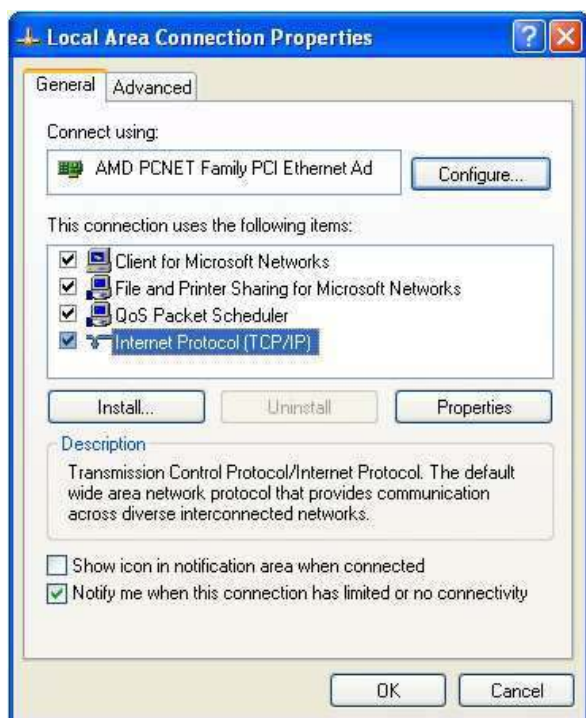

Figure A.1 – Connection properties window in Windows OS
- 2) Click the icon of the connection with the right button, and select "Properties" in the drop-down menu. The Properties window opens (see Fig. A.1).